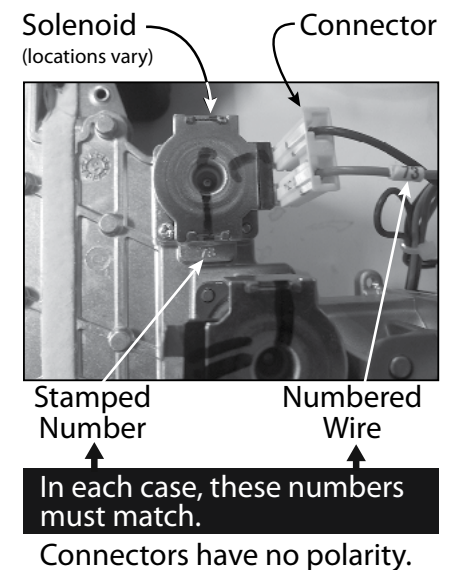

Figure 68.
- Each set of wires has a tag with a number on it, and each solenoid valve has a number stamped next to it. During installation, each wire number must match its solenoid valve number. See Figure 68.